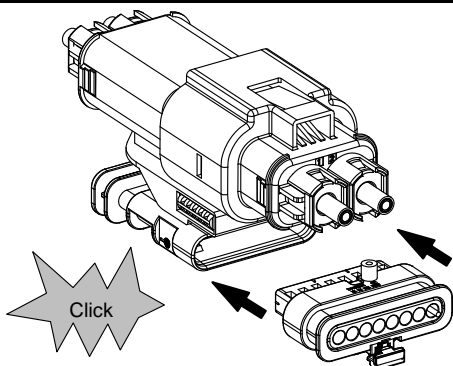

Figure 26
3. Push low voltage connector halves together until their main latch engages with a click as shown in Figure 26, then engage the low voltage connector CPA.